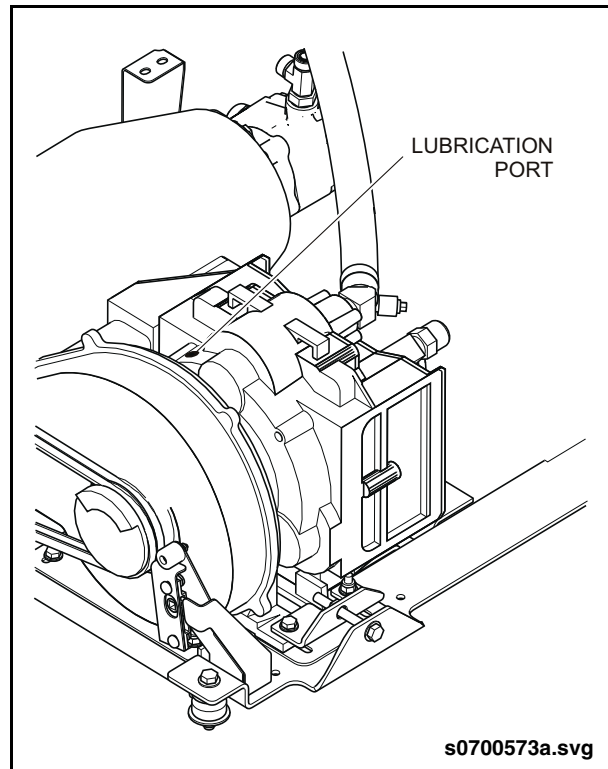

Fig. 1: Orbital Scroll Bearing Lubrication
1. Wipe off around dust cap. Remove plastic dust cap for orbital scroll bearing grease fitting. See "Fig. 1: Orbital Scroll Bearing Lubrication" on page 3.